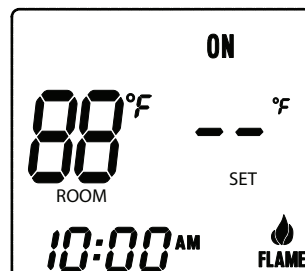

Fig. 5 Manual ON
Step 1: Press the MODE button one time to manually turn **ON** the appliance (Fig. 5).